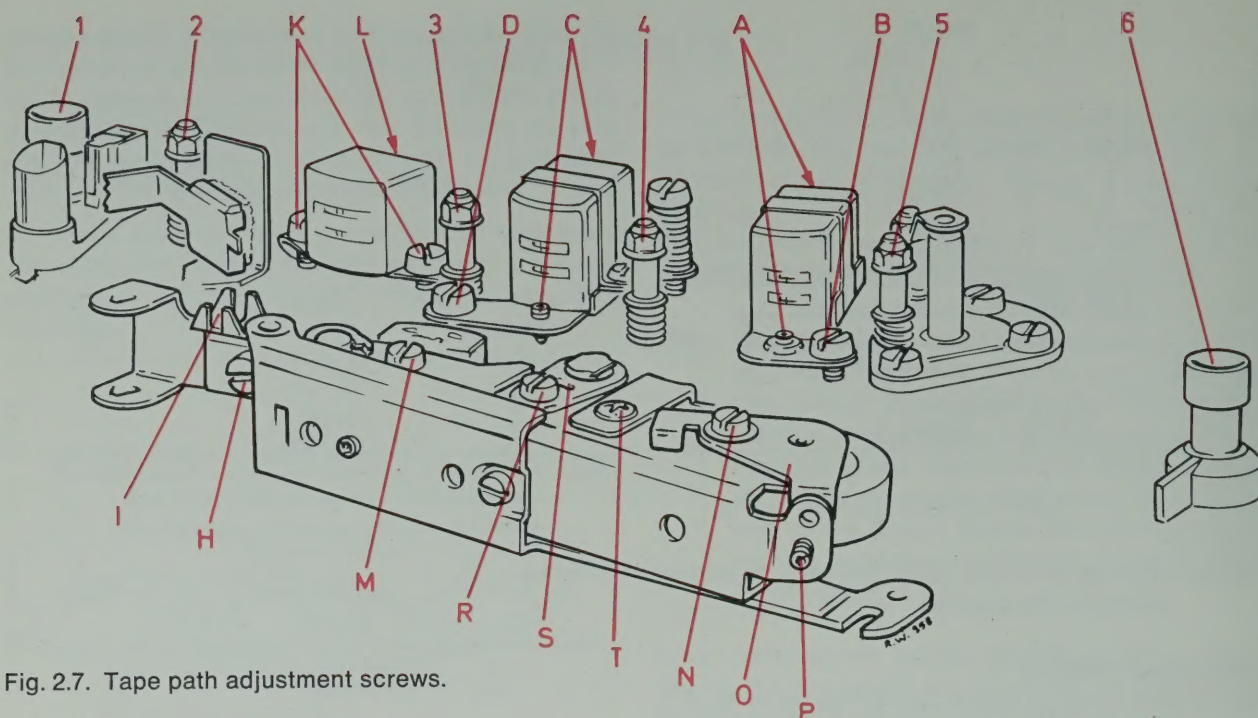

Fig. 2.7. Tape path adjustment screws.
Load the recorder with a tape, and move the operating lever slowly to the normal forward drive position. Check that the bias head neither touches the height adjustment screws C, see fig. 2.7, on the record head mounting plate, nor presses the tape against the record head. Also check that the bias head is parallel to the record head.
Insert a tape and set operating lever to normal forward drive. Check by visual inspection that the capstan and the pinch roller wheel are parallel. If not, adjust by first loosening screw (N), see fig. 2.7, and then adjust with set screw (P) until the wheel and capstan are parallel. Tighten screw (N).
Set the operating lever to normal forward drive with tape on the recorder. Loosen screw R, see fig. 2.7, on the inertia idling roller adjustment plate 291180. Insert a screwdriver in slots of the plate and press forwards or backwards until the idling roller is parallel with the heads. Note that the tape does not bulge on any side of the roller. Then tighten the screw.
By giving the inertia idling roller a light inclination (see paragraph 2.3.6), the roller will give the tape a light upward lift causing the tape to touch the upper flange on the tape guide posts 2, 3 and 4, see fig. 2.7. The result is a precise guidance of the tape past the heads. For a best possible result, readjust the tape guide posts 2, 3 and 4 so that each one slightly touches the tape with the upper flange, taking care to avoid that the tape bulges at any of the guide posts. The guide posts are adjusted in the sequence 4, 3, 2, see fig. 2.7, while the tape is moving at $7\frac{1}{2}$ ips. Repeat the adjustment until the tape guidance is as smooth as possible.
Play back Tandberg test tape No.1. This is a full track prerecorded tape with 1000 Hz recorded at $7\frac{1}{2}$ ips and with area corresponding to track 3 reduced by approx. 30 dB. Adjust the height of the playback head by means of the screws (A), see fig. 2.7, until minimum output is obtained from track 3 (channel R), while endeavouring to maintain the headfront parallel to the tape.
Play back Tandberg test tape No.2. This is a full track prerecorded tape with 10,000 or 15,000 Hz recorded at $7\frac{1}{2}$ ips. Adjust the azimuth position of the playback head by means of screw (B), see fig. 2.7, until maximum indication on the voltmeter is obtained on both channels, or best compromise.
Insert a new tape, and start the recorder in normal forward drive. Check visually that the tape appears to run parallel with the upper track of the record head, with a play of approx. 0.1 mm (0.004"), see fig. 3.2. If necessary adjust the height with screws (C), see fig. 2.7, while endeavouring to maintain the headfront parallel to the tape.
Load a new tape into the recorder and record at tape speed $7\frac{1}{2}$ ips a 15,000 Hz signal in stereo. Set the SOURCE/TAPE buttons to position TAPE. Adjust both INPUT LEVEL potentiometers for approx. 150 mV reading on AC voltmeters connected to the LINE or RADIO outputs. Adjust the record head azimuth screw (D), see fig. 2.7, for maximum output from both channels simultaneously or best compromise.